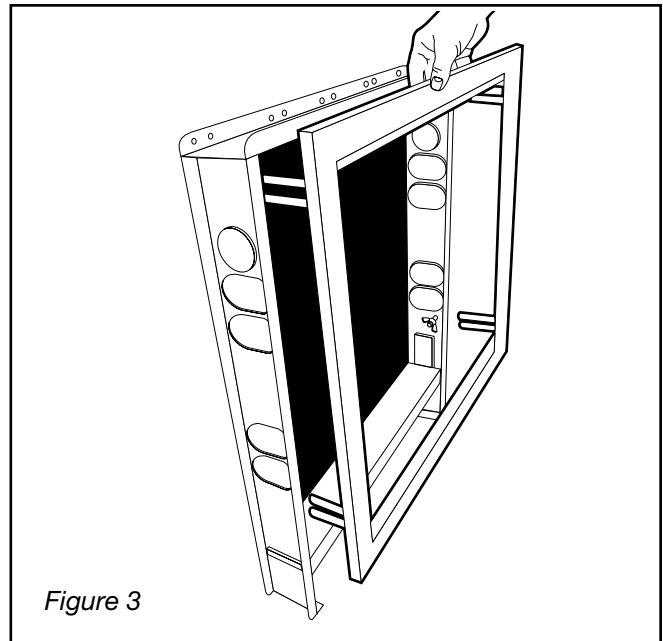

Figure 3
2. Slide the door frame brackets towards the manifold cabinet studs until they attach onto the manifold cabinet. See Figure 3.